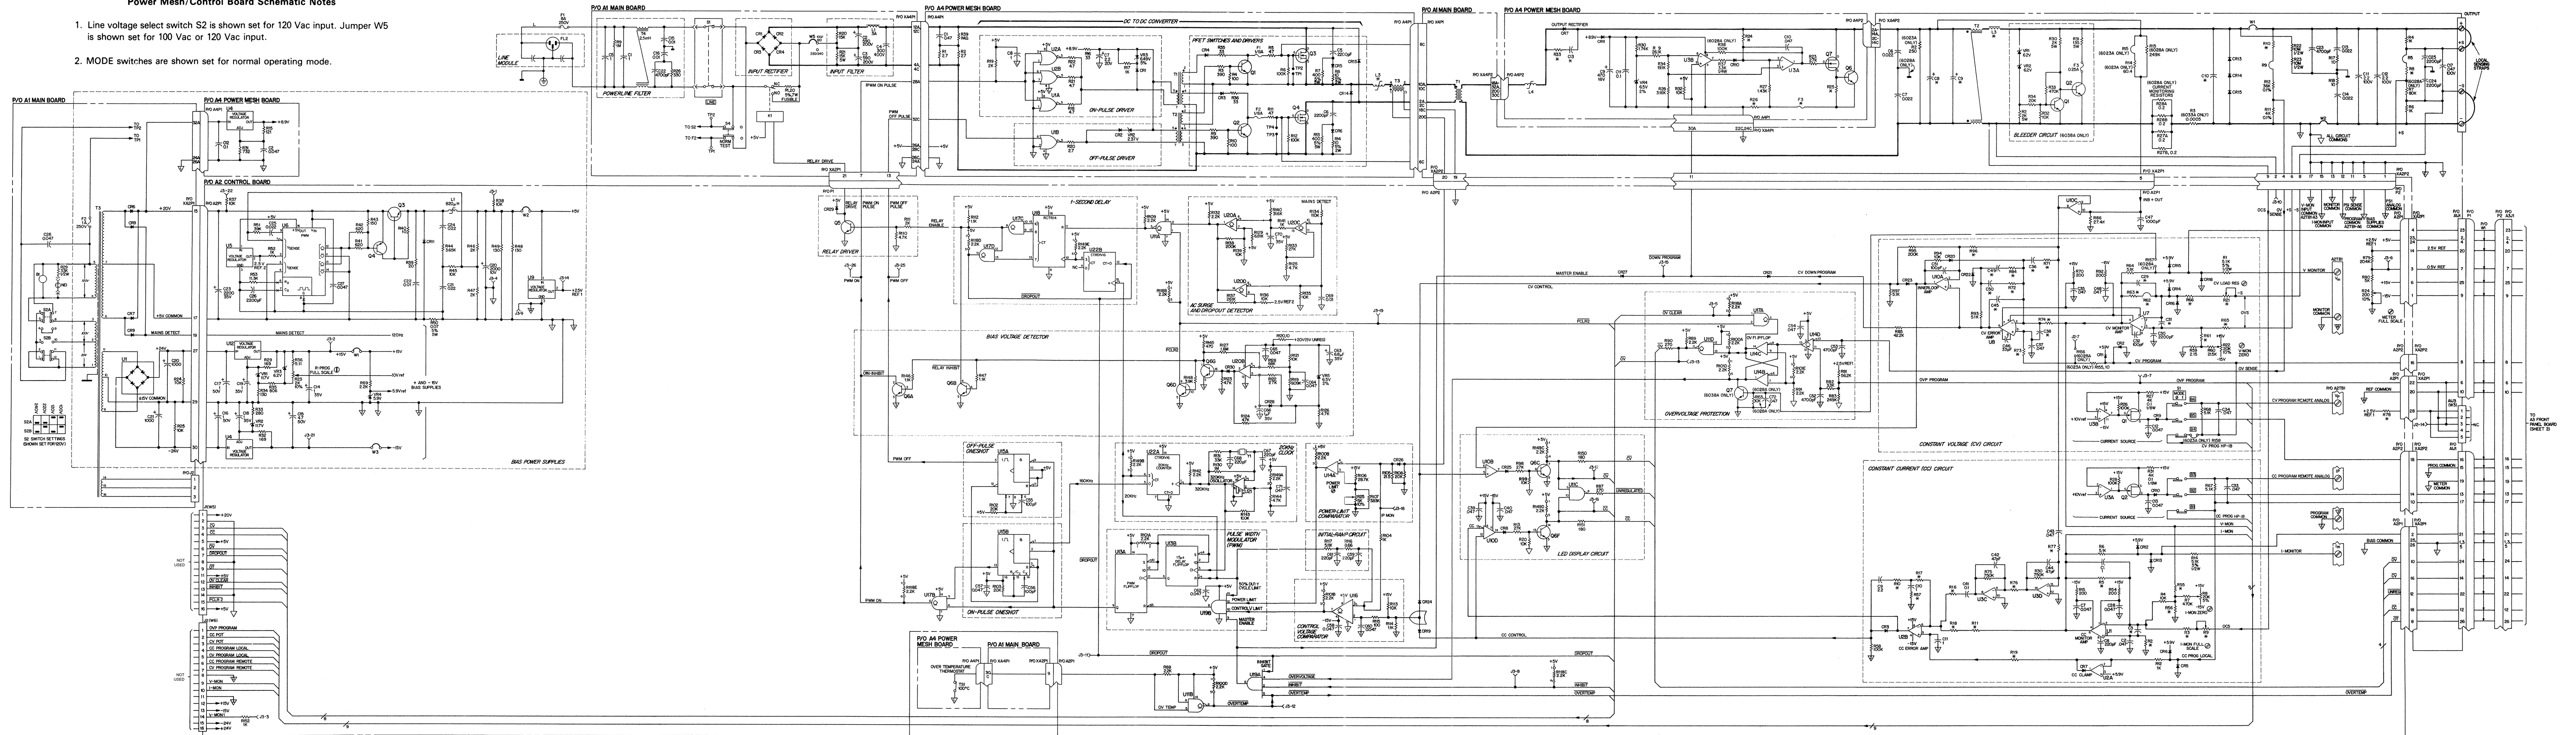

Figure 6-6. Power Mesh and Control Board Schematic Diagram 77
- c. Figures 6-6 and 6-7 illustrate the detailed schematic of the unit. Test points are called out and short explanatory notes are positioned close to the related circuit to enhance schematic readability.